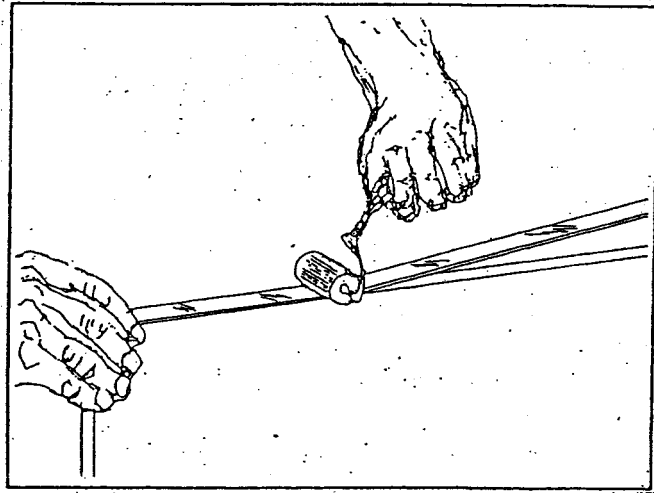

Figure 4
- Adhere the edge strips to the substrate by hand, using a J-Roller or a high quality edgebander (no pricks). If you use an edgebander, set its trimmer for the accurate thickness and check the automatic feed roller. A prick roller can puncture the back of the sheet, therefore, feed the sheet through the edgebander by hand. You can also use hot melt adhesive with an edgebander. See Figure 4.